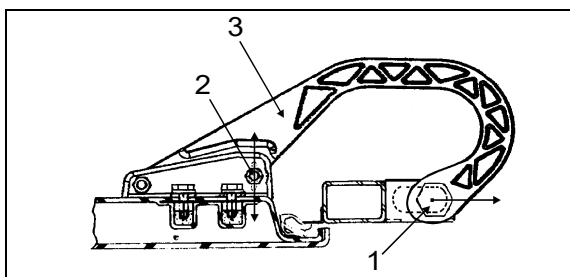

FIGURE 71: DOOR HINGE
- Loosen nut (1, Figure 71).
- Move part (3, Figure 71) as shown in figure for "LEFT or RIGHT" adjustment.
- Tighten nut (1, Figure 71).
- Loosen nut (2, Figure 71).